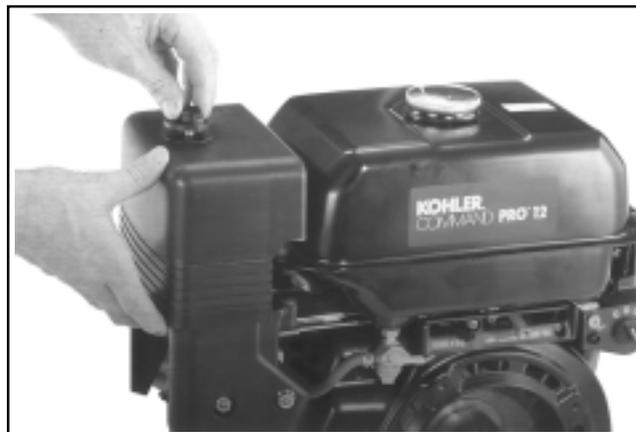

**Figure 11-114. CS8.5 (spec. 95xxxx). Mounting Shut-Off Valve.**
4. Connect the fuel line from the fuel tank to the inlet fitting of the shut-off valve and secure with the clamp. Mount the bracket/shut-off valve assembly to the blower housing aligning the indexing mark and screw hole. Install the hex. flange head screw and torque to **8-12 N·m (71-106 in. lb.)**. See Figure 11-114.